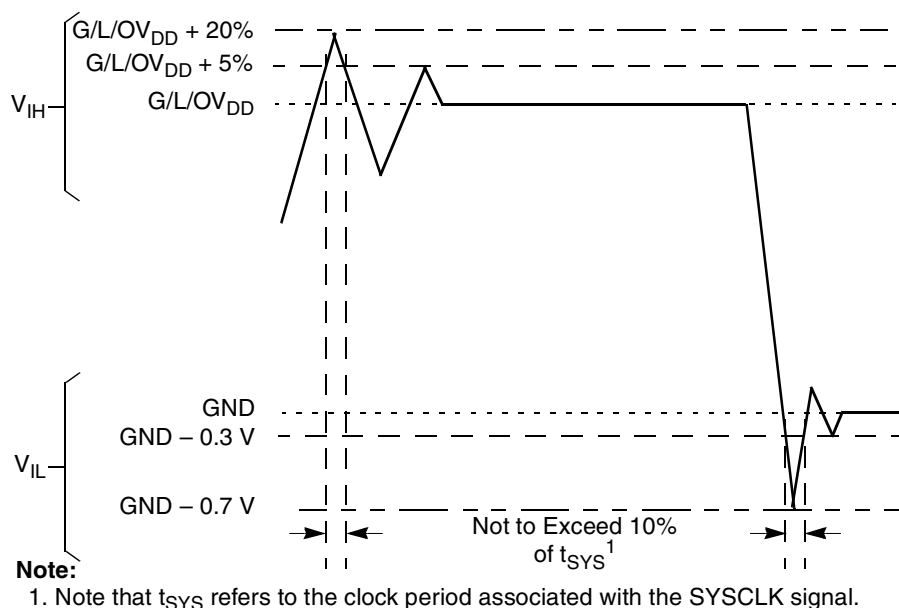

**Figure 2. Overshoot/Undershoot Voltage for  $GV_{DD}/OV_{DD}/LV_{DD}$**
- (M,L,O) $V_{IN}$  and  $MV_{REF}$  may overshoot/undershoot to a voltage and for a maximum duration as shown in Figure 2.
Figure 2 shows the undershoot and overshoot voltages at the interfaces of the MPC8555E.